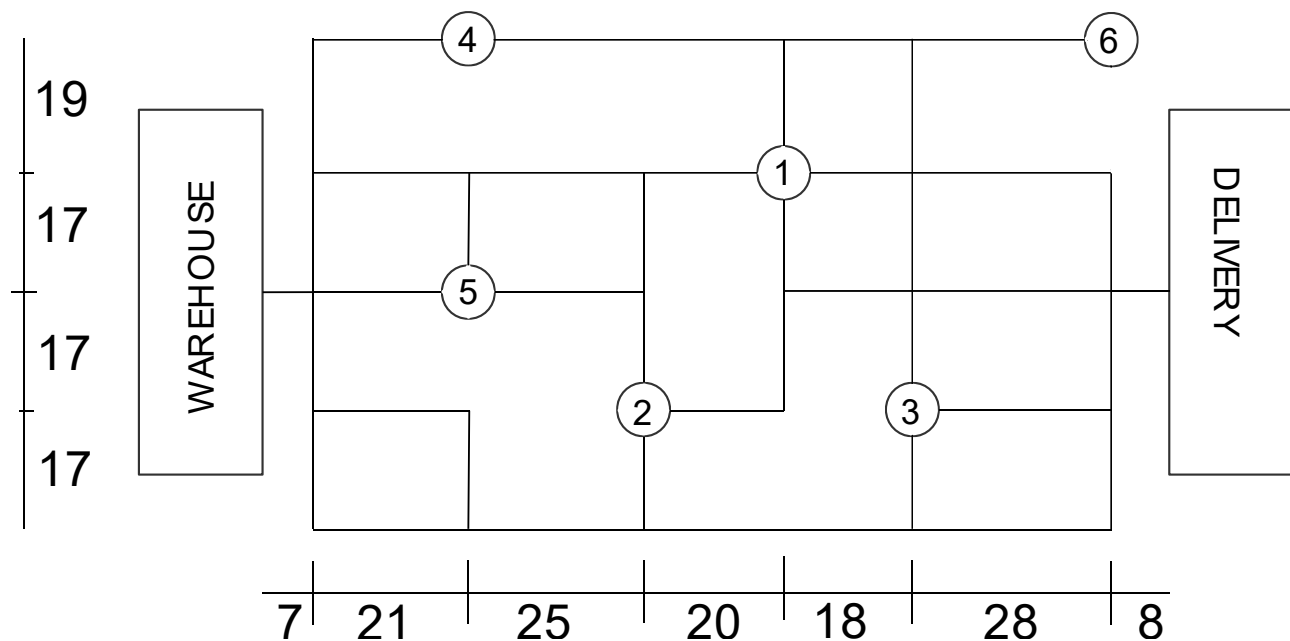

Figure 1: shop floor layout
**Fig. 1.** Job shop scheduling problem. Three jobs J1, J2, and J3 are to be scheduled on three machines M1, M2 and M3. The graph on the top represents the precedence constraints. The Gantt Chart on the bottom displays a feasible schedule which satisfies the precedence constraints.
In the previous task, there were some implicit assumptions; one of them was that it took no time to move a part (job) from one machine to the following one. In a real plant though, this transportation time may not be negligible. In fact, let us assume that figure 1 represents the shop floor where the jobs of Fisher & Thompson 6x6 are executed. Distances are given in meters; for example, the (shortest) transportation distance from M6 to the delivery area is 28+19+28+17+8 meters long. Also, the transportation speed can be assumed to be constant (5 meters per second) and it can be assumed that processing times in the problem “ft06” are expressed in seconds).